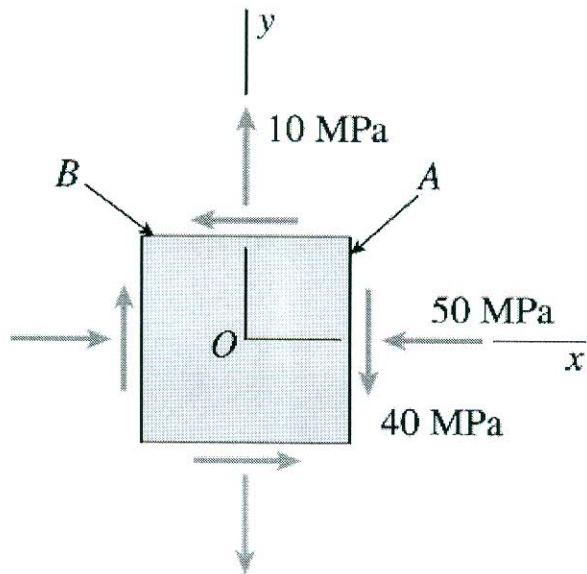

Figure 5
4. At a point on the surface of a generator shaft the stresses are $\sigma_x = -50\text{ MPa}$, $\sigma_y = 10\text{ MPa}$ and $\tau_{xy} = -40\text{ MPa}$ as shown in Figure 5. Using Mohr's circle determine the following: